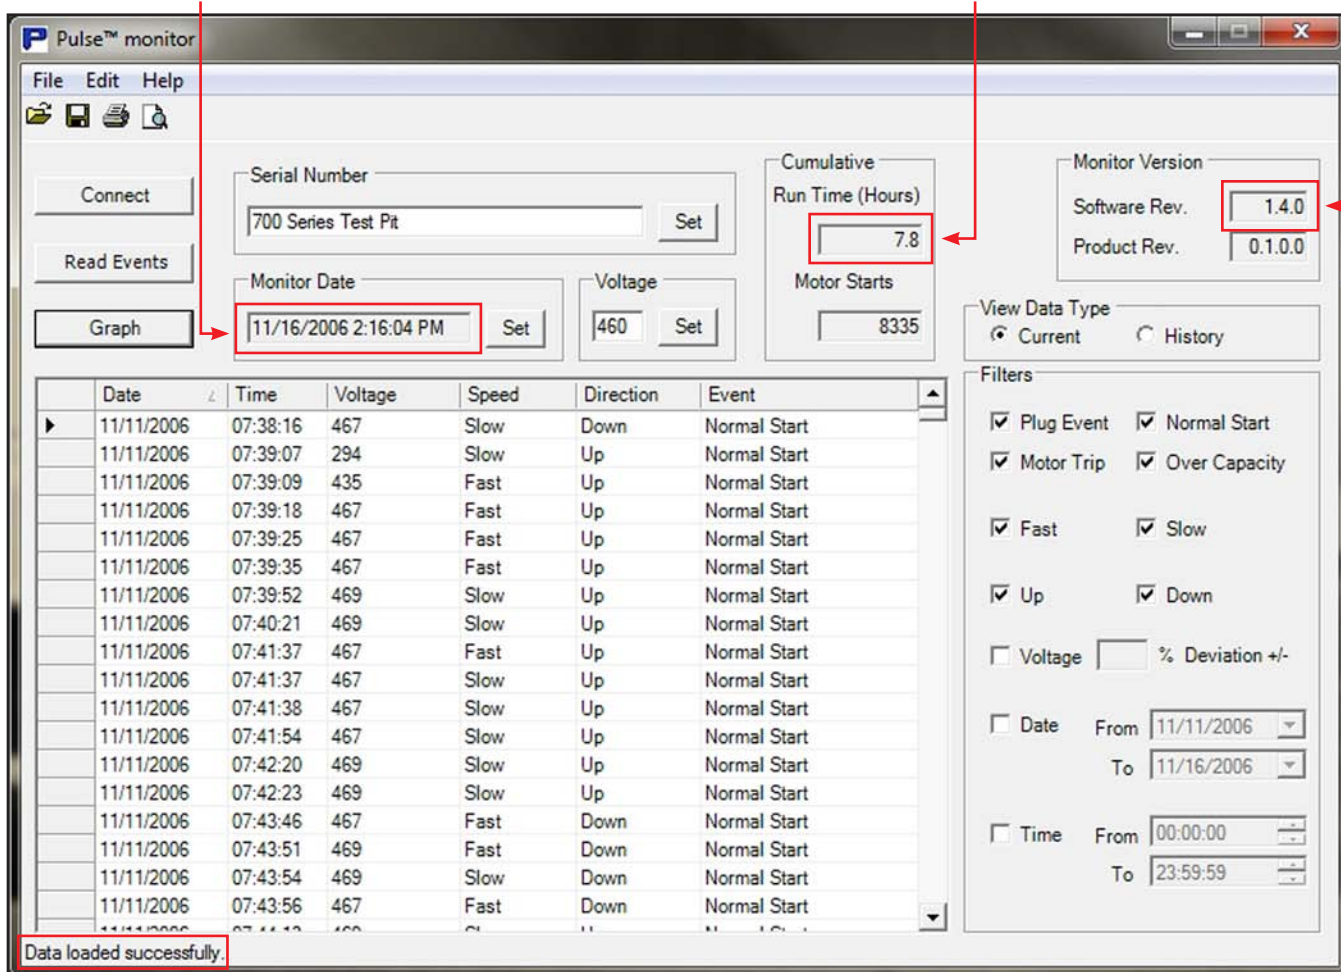

FIGURE 5
4. If your connection was successful, the following message **Data loaded successfully** will be displayed in the lower left corner. The monitor date, monitor version and cumulative run time / start data will also appear. See Figure 5.